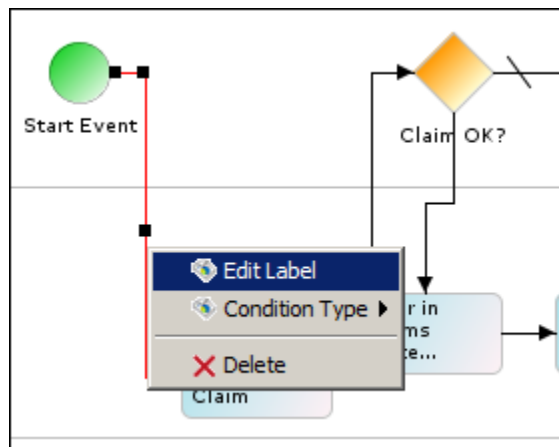

Figure 36: Edit Control Flow Label
1. Right-click the control flow and select **Edit Label** option (see Figure 36).